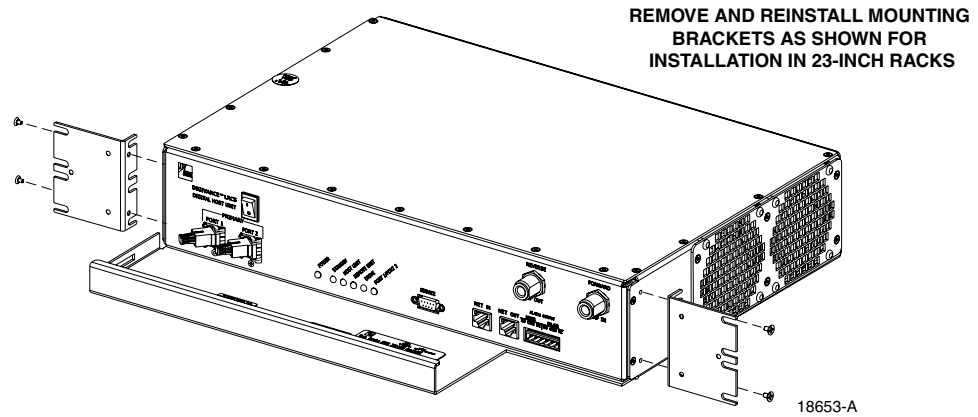

Figure 3-5. Installing the Mounting Brackets for 23-Inch Rack Installations
3. Reinstall both mounting brackets so the long side of the bracket is flush with the HU front panel as shown in Figure 3-5. Use the screws removed in step 2 to re-attach the brackets to the HU chassis.